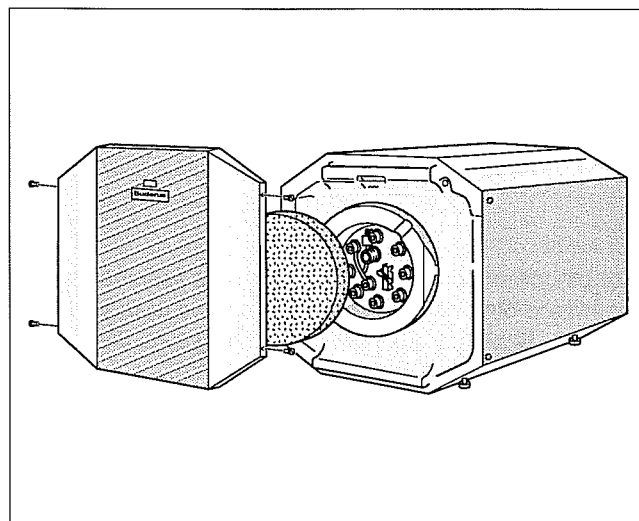

Fig. 5 Remove front cover
- Remove the 4 front panel screws (Fig. 5).